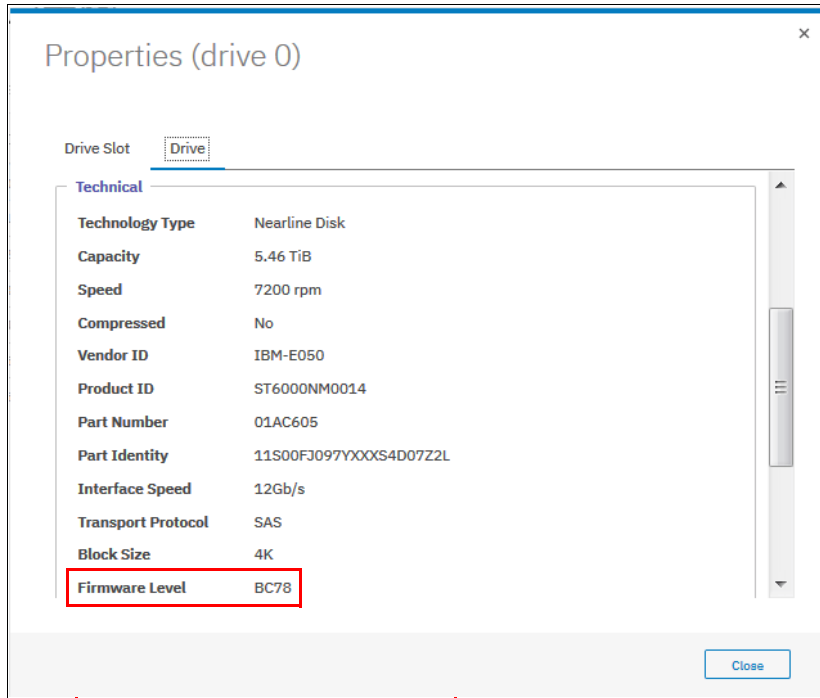

Figure 12-63 Individual drive update result
3. To verify the new firmware level, right-click the drive and select **Properties**, as shown in Figure 12-63.